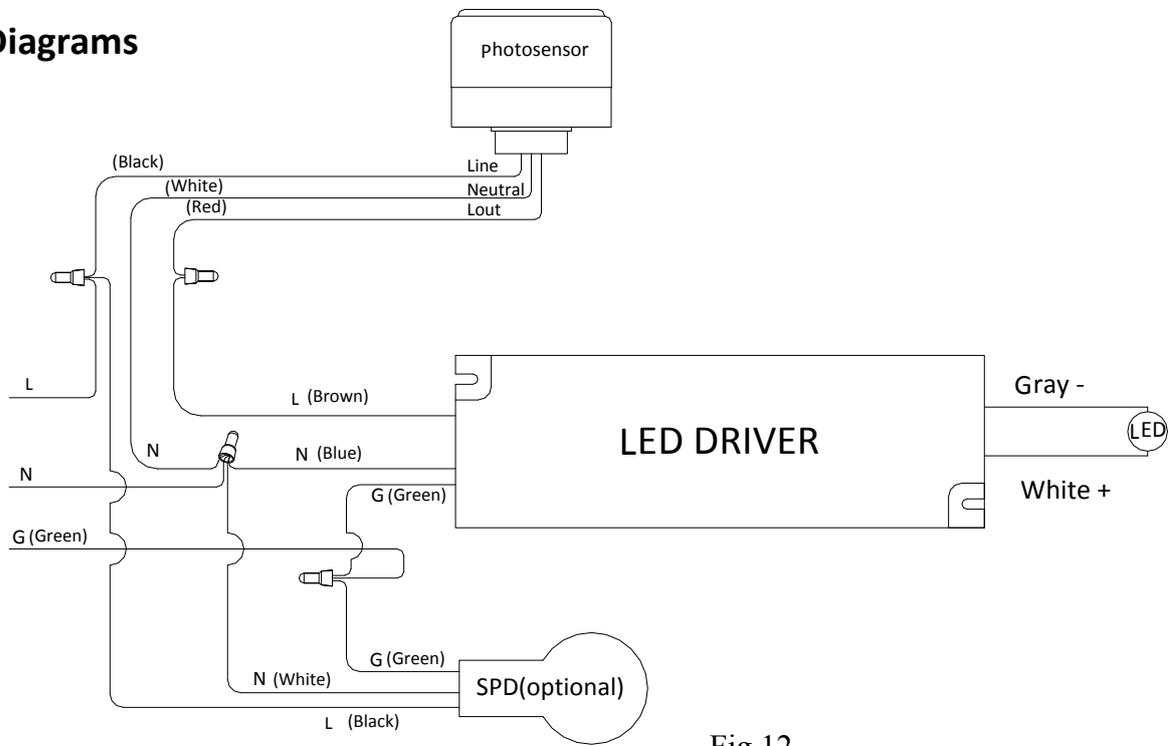

Fig.12
7. According to the lamp inner wiring schematic, connect wires safely(If needed). (Fig.12)